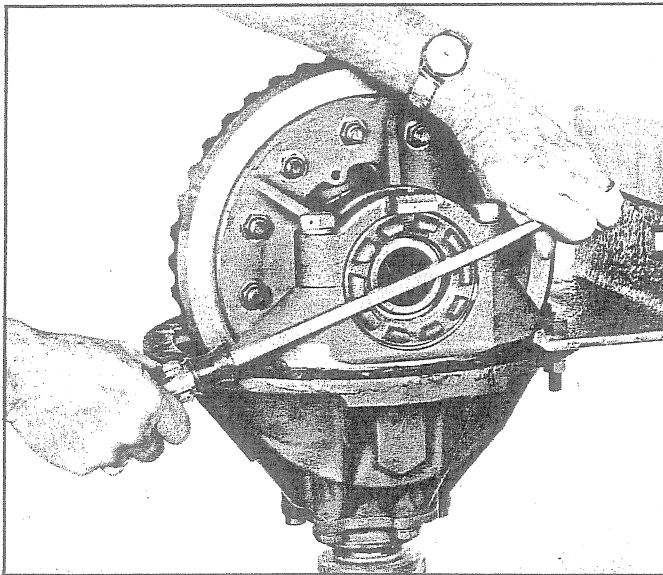

Fig. 119 - Adjusting Bearing Preload and/or Backlash
18. Tighten bearing adjusting nuts, as shown in Fig. 119, to adjust bearing to zero end play. (All bearing rollers should rotate as ring gear is rotated, but it should not be possible to move the rollers sideways in their cage.)